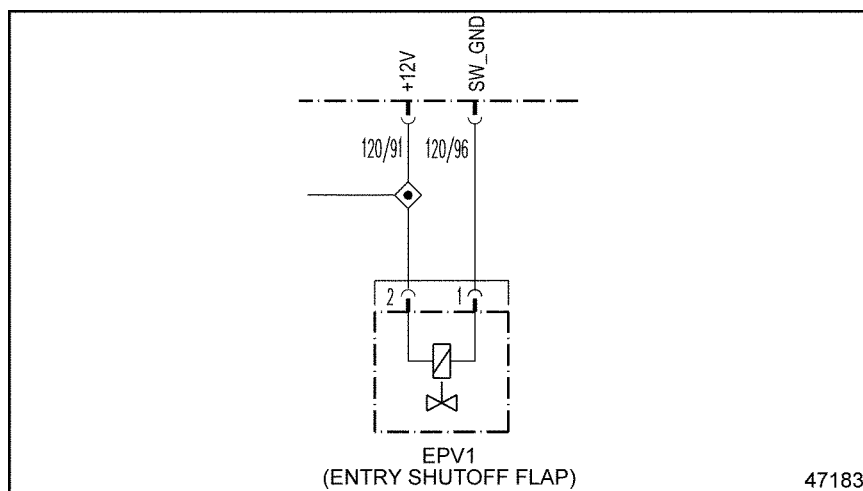

Figure 34-3 EPV1 (Entry Shutoff Flap)
- [a] If the resistance is greater than 5Ω , replace the EPV1 for the Entry Shutoff Flap. See Figure 34-3. Refer to section 34.3.1.1.